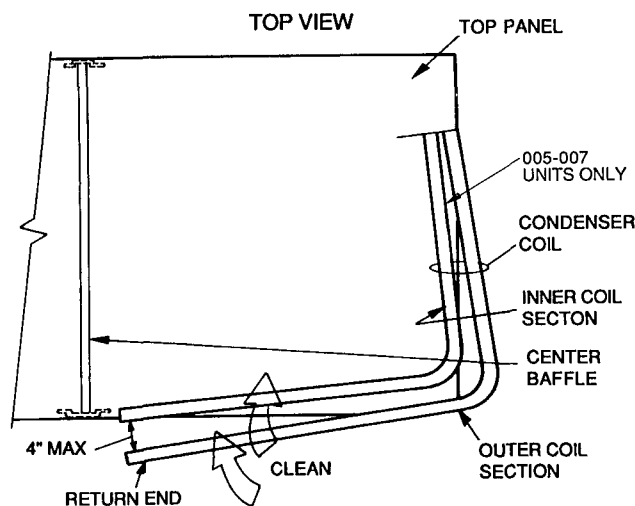

Fig. 26 — Separating Coil Sections
5. Remove fastener holding coil sections together at return end of condenser coil. Carefully separate the outer coil section 3 to 4 in. from the inner coil section. See Fig. 26.